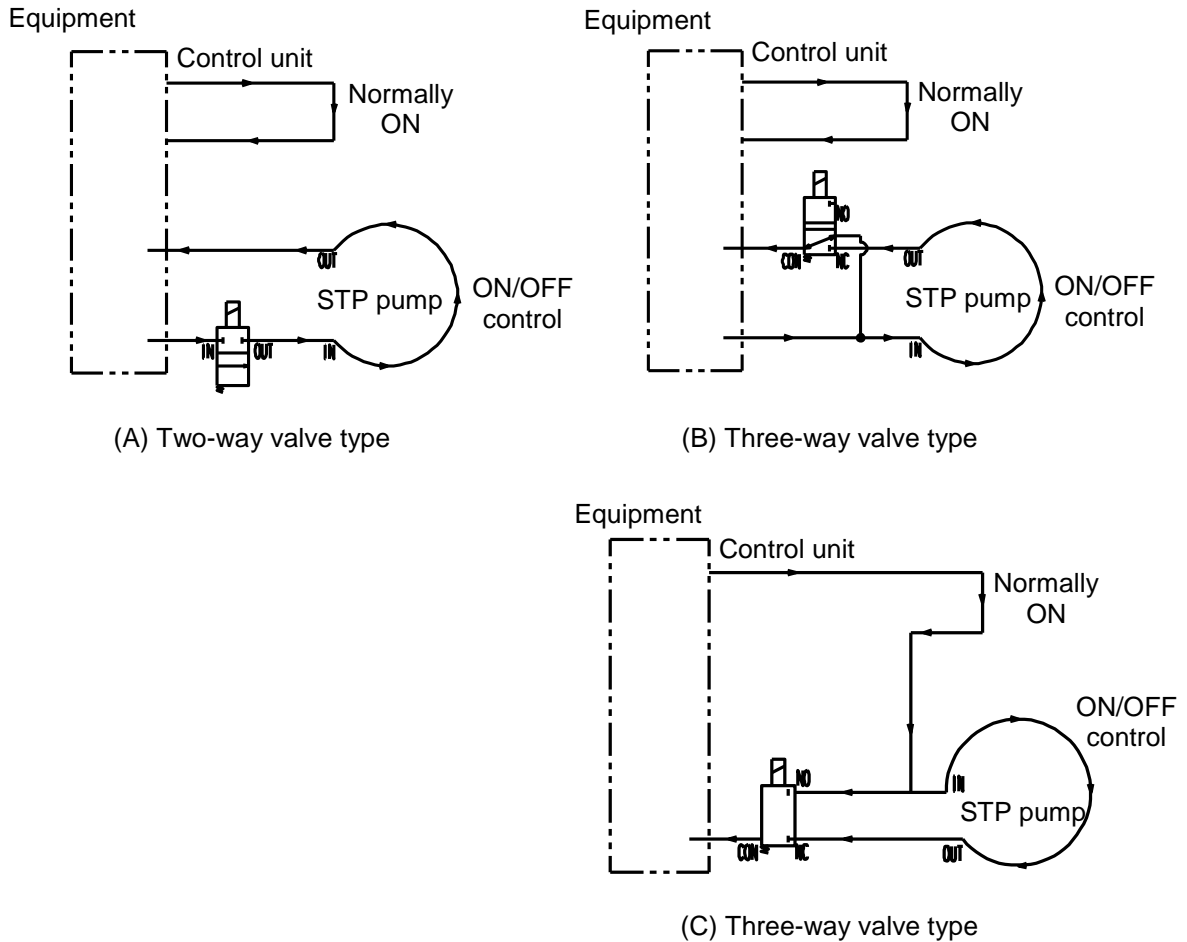

Figure 30 - TMS valve connection
The control unit is always water-cooled. Connect the pump and TMS valve according to Figure 30.
Figure 29 shows wiring and piping of two-way valve type. Refer to Figure 30 for wiring and piping of three-way valve type.
The control unit is always water-cooled. For (A) Two-way valve type and (B) Three-way valve type in Figure 30, two water supply lines are required for ON/OFF valve control.
Connect the pump and TMS valve according to Figure 30.